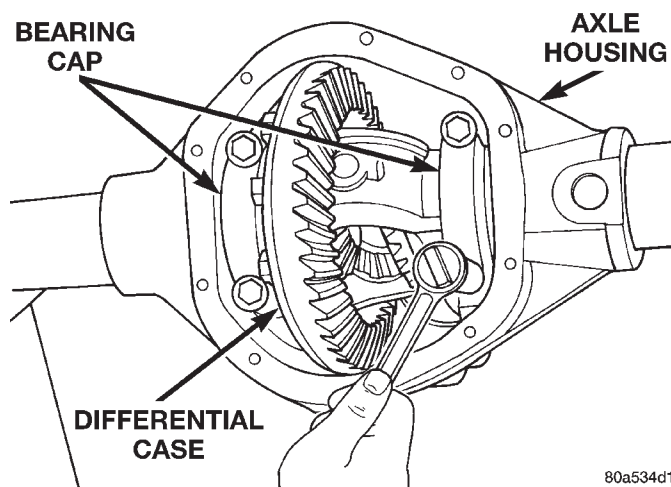

Fig. 51 Tighten Bolts Holding Bearing Caps
- (1) Remove differential side bearings from differential case.
- (2) Remove factory installed shims from differential case.
- (3) Install ring gear on differential case and tighten bolts to specification.
- (4) Install dummy side bearings D-348 on differential case.
- (5) Install differential case in axle housing.
- (6) Install the marked bearing caps in their correct positions. Install and snug the bolts (Fig. 51).